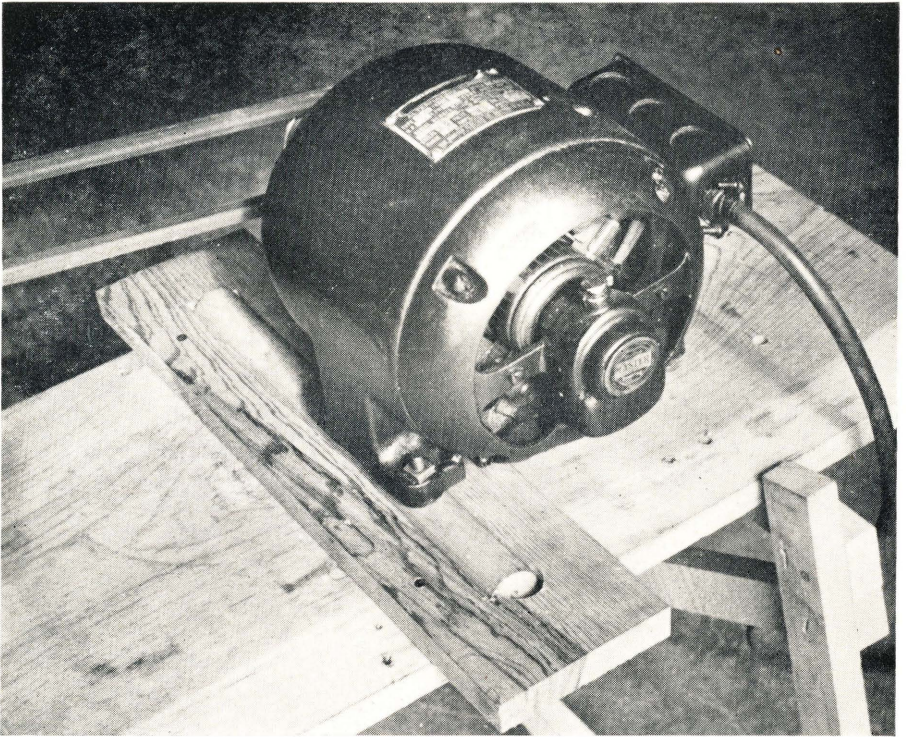

Fig. 14. The broom handle portable motor in operating position.
3. Figure 14 shows the "broom handle method" of making a motor portable. Cut a large broom handle, or hoe handle, of approximately the same length as the motor shaft. Bolt the broom handle to the motor as shown, counter sinking the heads of the bolts. The slot in the wood mounting block is made by drilling two holes (the distance between the centers of these two holes should be equal to the length of the broom handle) in a board, and removing the wood between the holes with a keyhole saw.